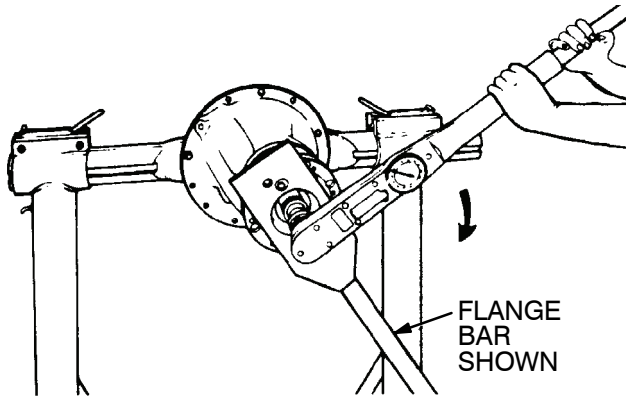

Figure 121.
- (d) Fasten a yoke or flange bar to the input yoke. The bar will hold the drive pinion in position when the nut is tightened. Figure 121.
- (e) Tighten the nut on drive pinion to the correct torque value. Figure 121. See chart 1.